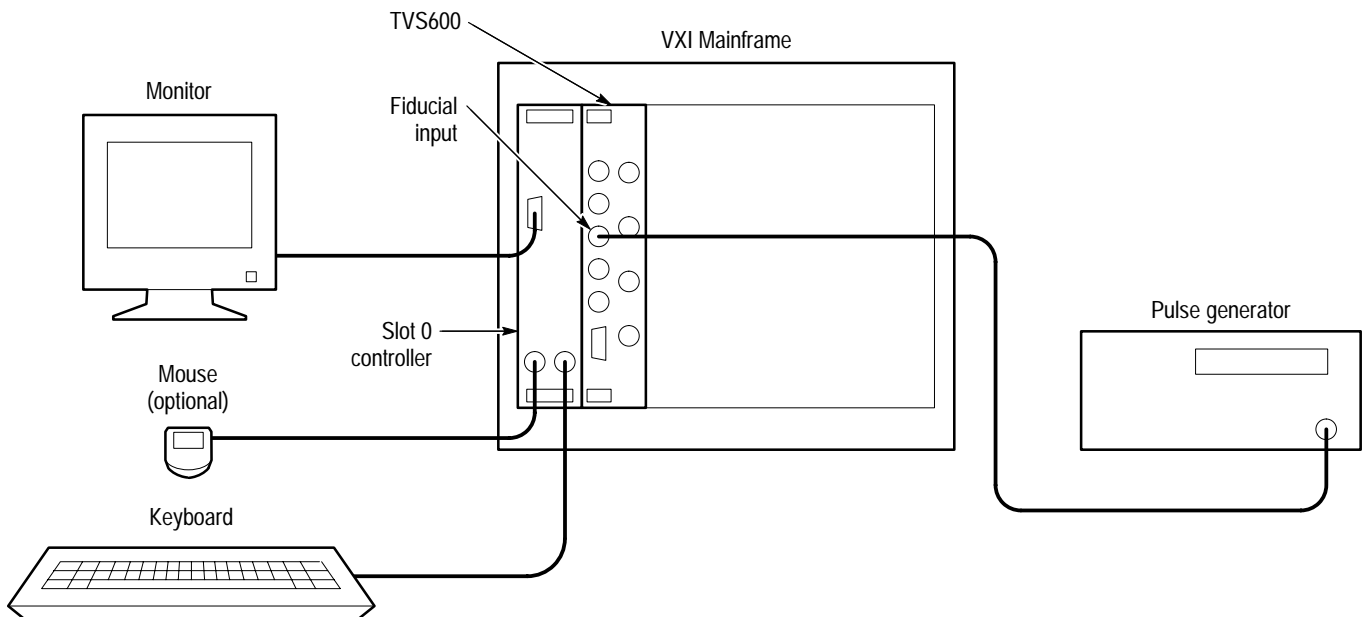

Figure 4-5: FIDUCIAL INPUT check setup
1. Connect the test equipment as shown in Figure 4-5.